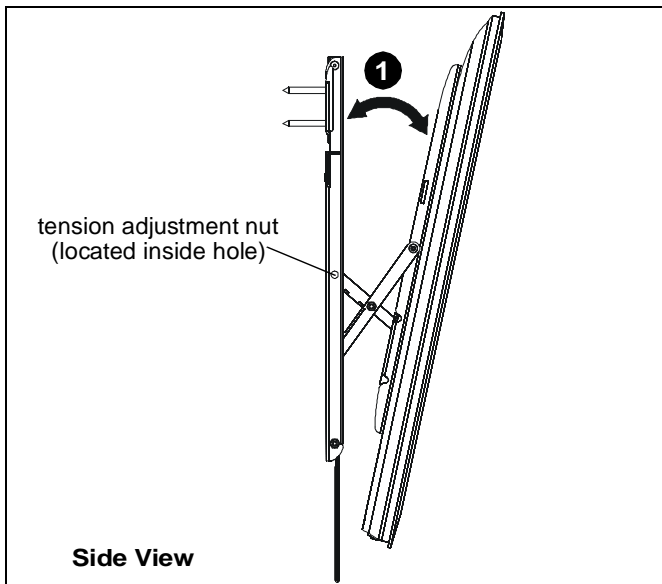

Figure 7
- Display may be tilted forward by pulling forward on the top of the display as desired. (See Figure 7)